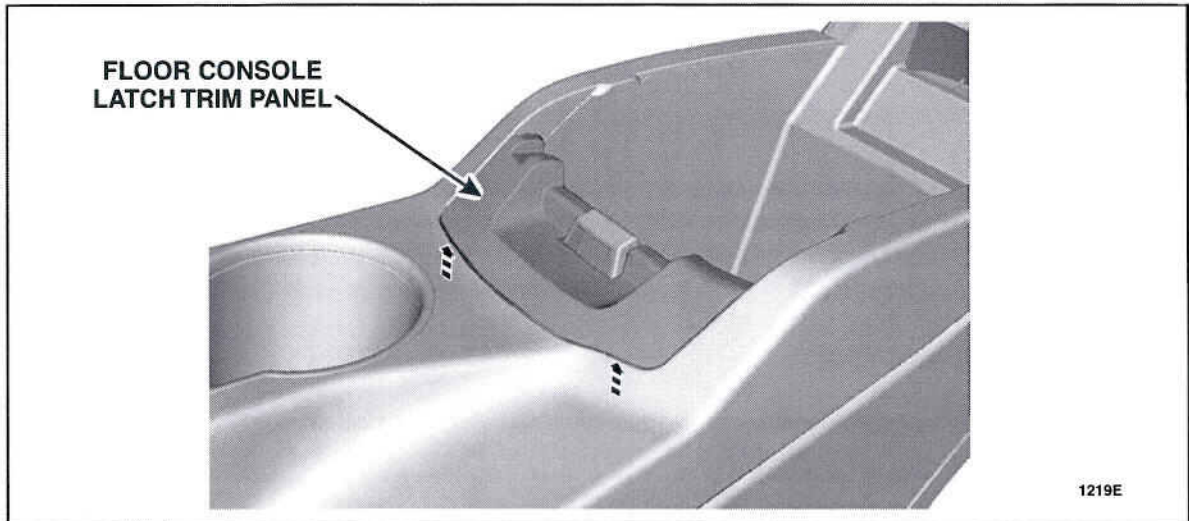

FIGURE 2
3. Remove the floor console latch trim panel. See Figure 2.
13. Install the floor console latch trim panel. See Figure 2.